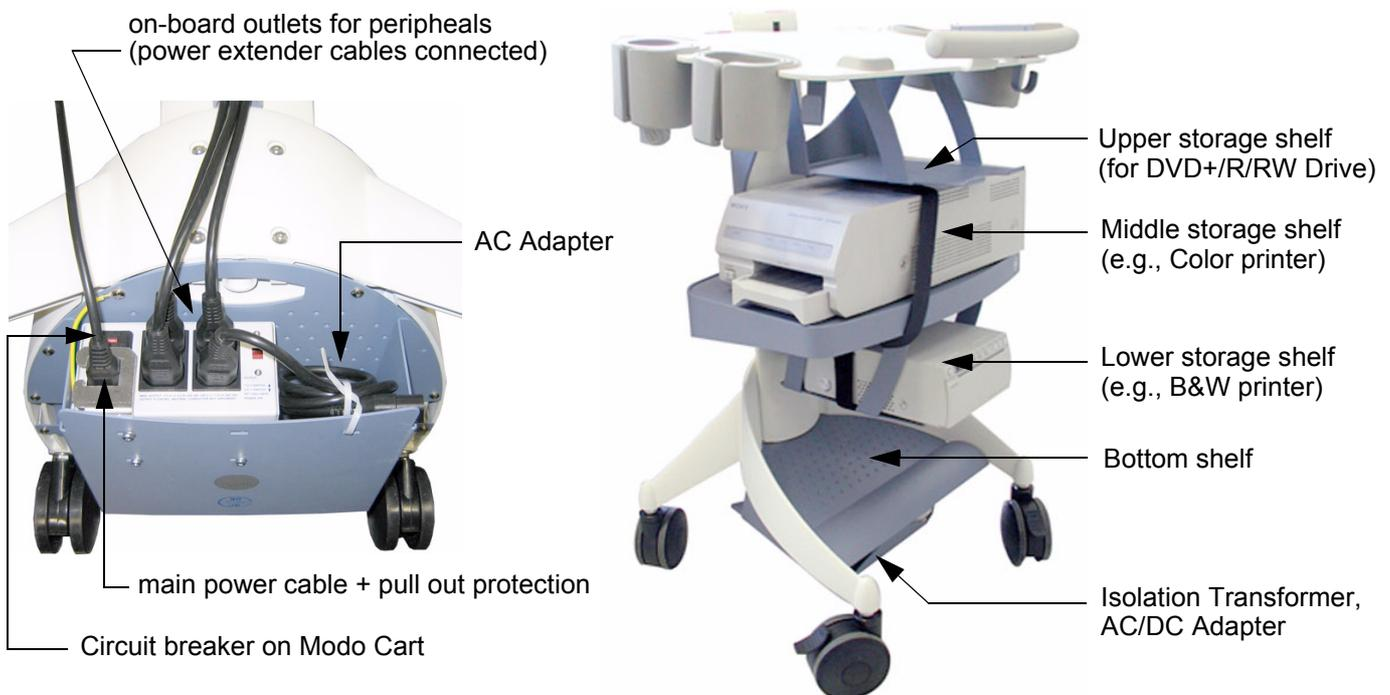

Figure 3-21 Isolation Transformer of Modco Cart / Peripherals mounted and secured
- 5.) Put the AC adapter beside the transformer into the shelf and fasten it (see: Figure 3-21 below).
NOTE: Make sure that the Velcro tape is firmly fastened. For reference see: Figure 3-21 on page 3-26.